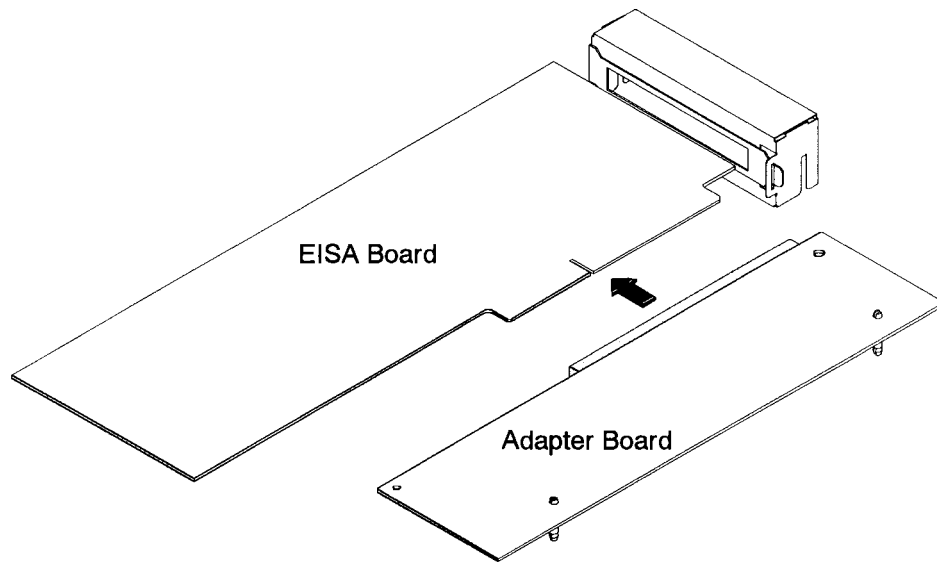

Figure B-50. Connecting the EISA Board to the Adapter Board
- 6.** Insert the EISA board into the connector on the adapter board. Push firmly to ensure a secure connection, as shown in Figure B-50.